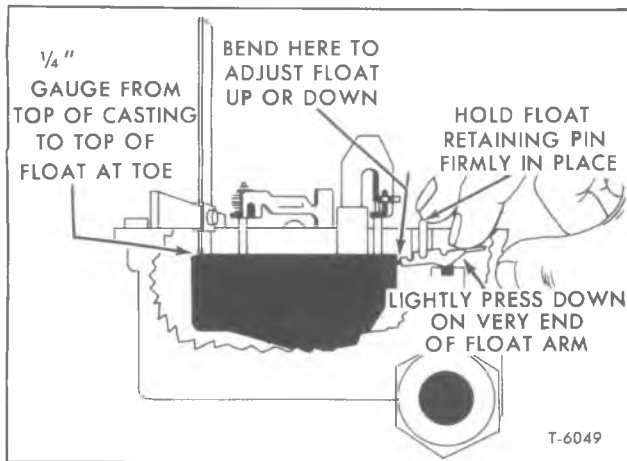

Figure 19—Float Level Adjustment
7. Hold float bowl retaining pin firmly in place and lightly press down on very end of float arm as shown in figure 19.